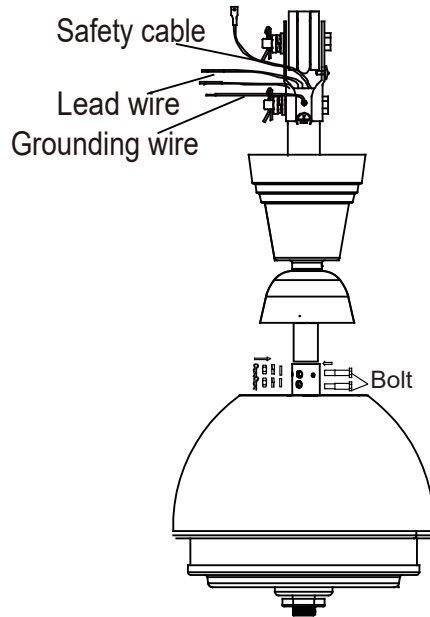

Fig.3
- 2) Insert downrod through canopy&yoke cover, Insert the down rod into the motor shaft, Thread wires and safety cable through downrod , Aligning the down rod holes to the holes of shaft. Tighten the down rod to motor with the previous bolt、washer、nut and cotter pin (Fig.3)